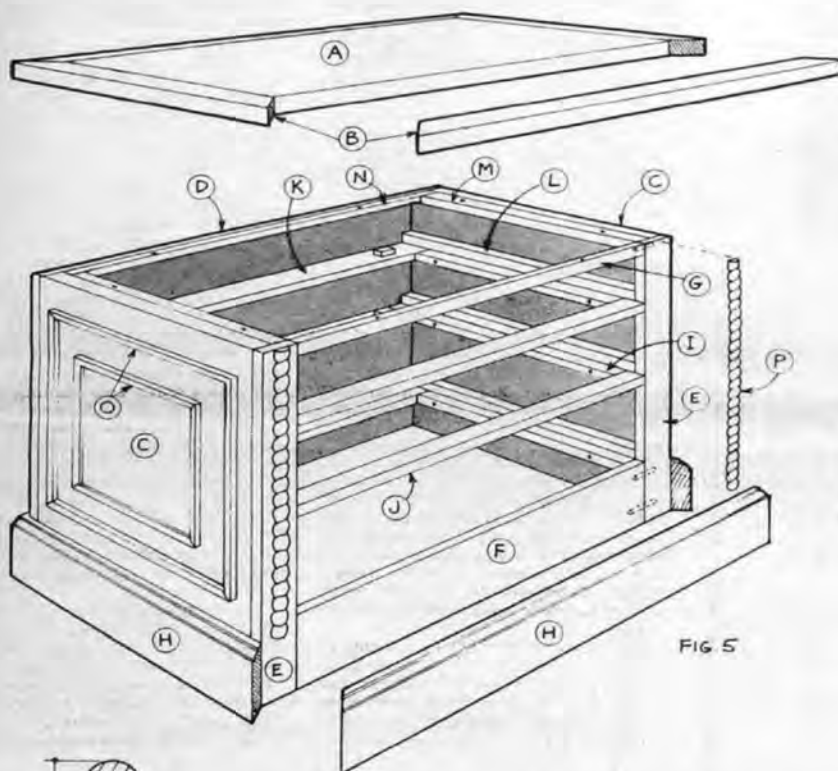

FIG. 5
The two trim strips (E) are cut to length and stopped dadoes are laid out for the two front drawer dividers as shown in Fig. 4. Cut these dadoes by hand with a chisel or use a router. Upper and lower rails F and G are joined to the trim strips with glue and dowel pins as shown in Fig. 5. When clamping this frame assembly, be sure to keep it flat and square.